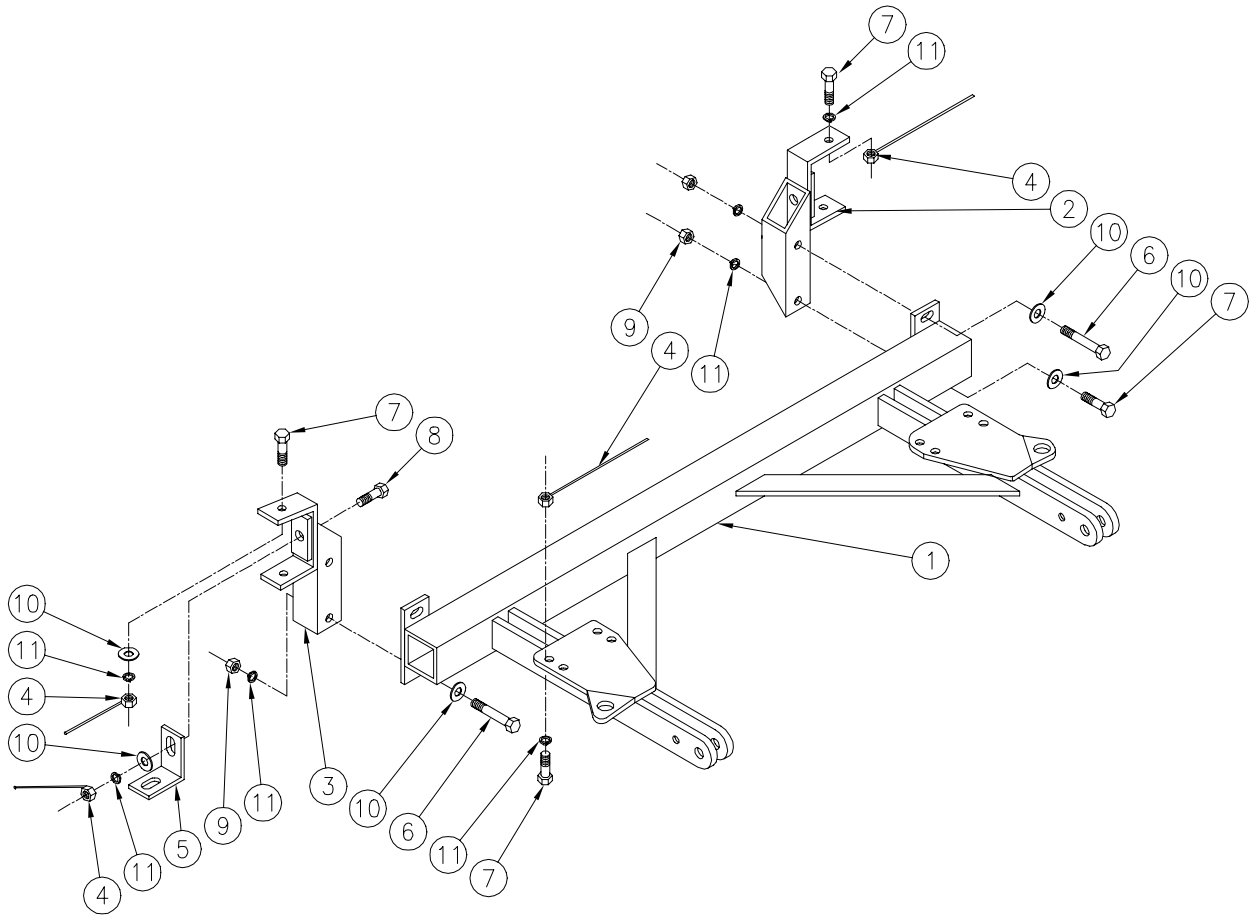

**Figure 2**
- Place the baseplate so that the braces on each set of attachment tabs are positioned at the center of the cross frame as shown in Figure 2. Clamp the baseplate to the frame.